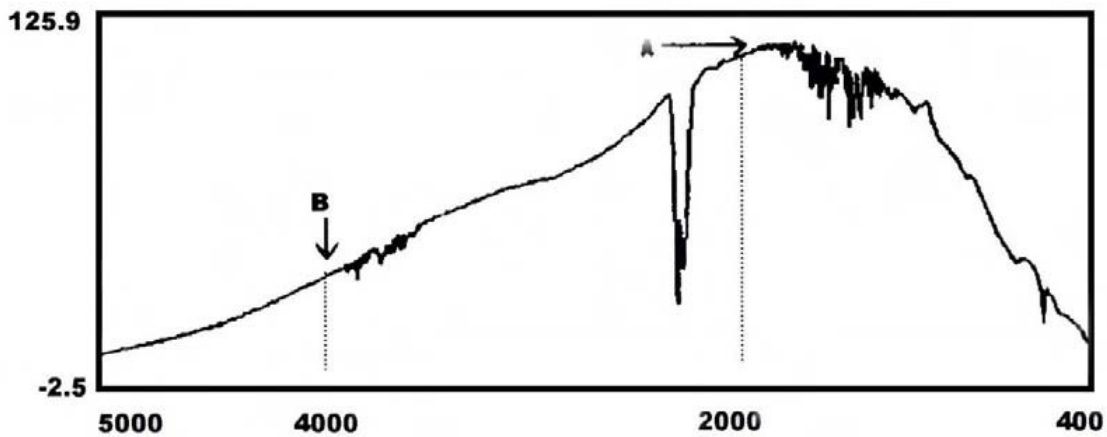

Figure 78. Correct background spectrum
You evaluate the spectral balance using a Background spectrum. A Background spectrum is provided in “Acquire Background” Figure 68. It should look like Figure 78, having the same overall shape and peaks.
1. Compare your Background spectrum to the spectrum shown in Figure 78. Note the intensity of region A (2000 cm^{-1}) and region B (4000 cm^{-1})